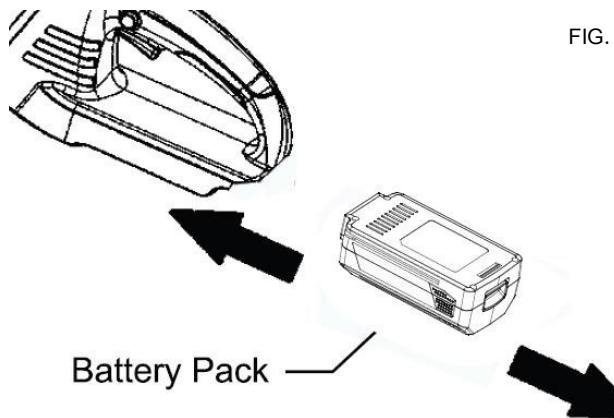

FIG. 19
- Align grooves on battery pack with raised ribs in the tool's battery port and slide the battery pack in the tool. (Fig 19) Press firmly on the battery to ensure a good connection.